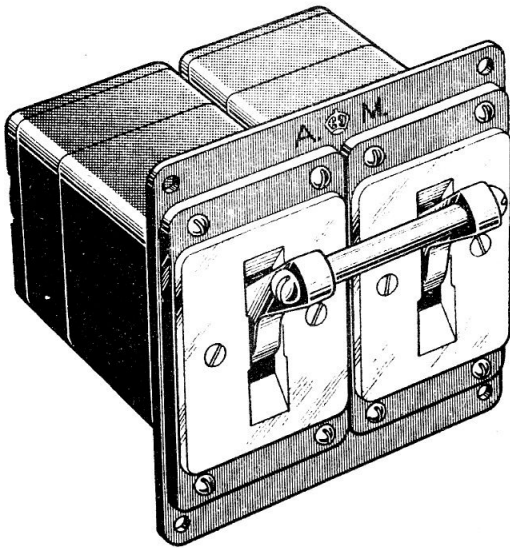

Fig. 1. Change-over switch, Type A
3. The change-over switch (fig. 1) is a double-pole switch consisting of two 3-way switches fitted side by side. The mechanism of the 3-way switch is shown in fig. 2, which also gives the connections, with the dolly in the central position. The terminals in one bank are joined together by a link to provide a common feed; this link can be removed if required. When moving the dolly from the centre position to either of the two outer positions, four terminals are momentarily connected together; when the full travel has been completed, only the two outer terminals are joined.